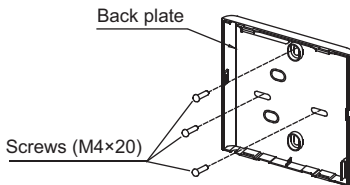

Fig 3-3
- For exposed mounting, fasten the back plate on the wall with the 3 screws (M4×20) and plugs. (Fig.3-3)